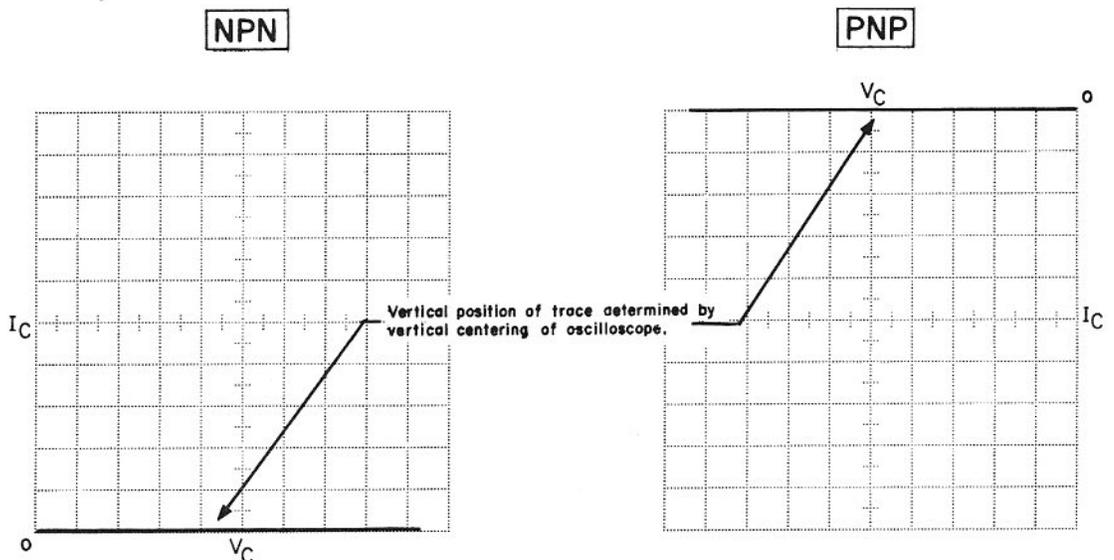

Figure 13. Open Transistor Curves
- If the transistor is open, there will be a horizontal trace only, since no collector current will flow. (see Figure 13).